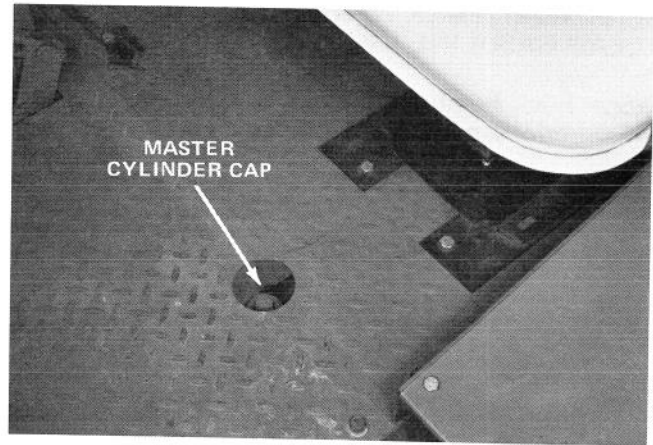

Figure 30
1. The master cylinder is located under the floor panel on the left side. A hole is cut in the panel for access to the master cylinder cap. (See Figure 30).